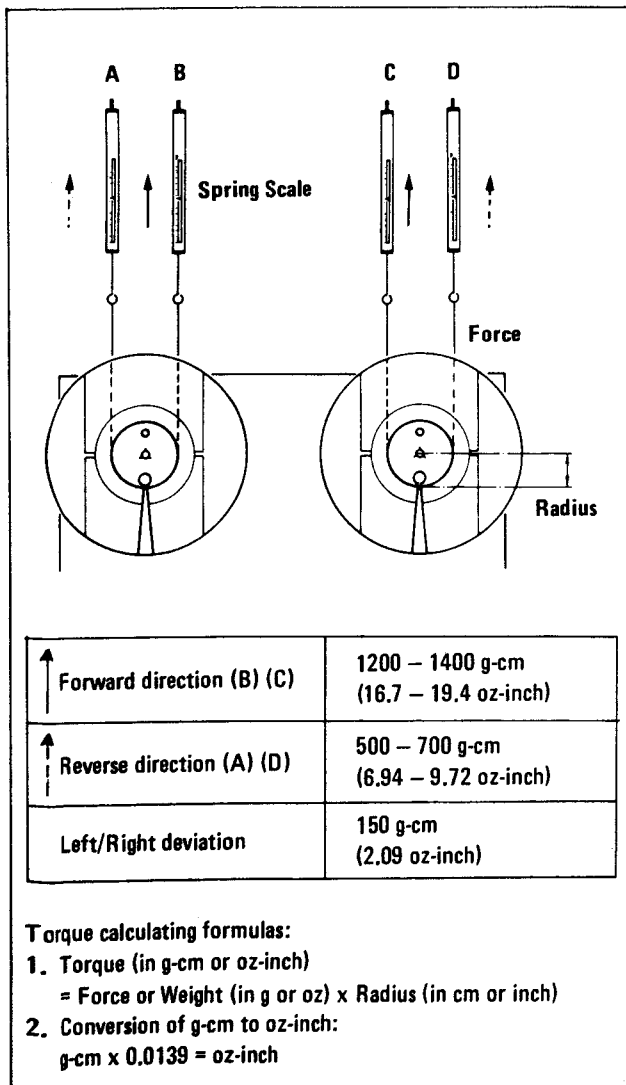

Fig. 2-4
3. Follow steps 1 and 2 for each measuring condition; i.e., (A) through (D) in Fig. 2-4.